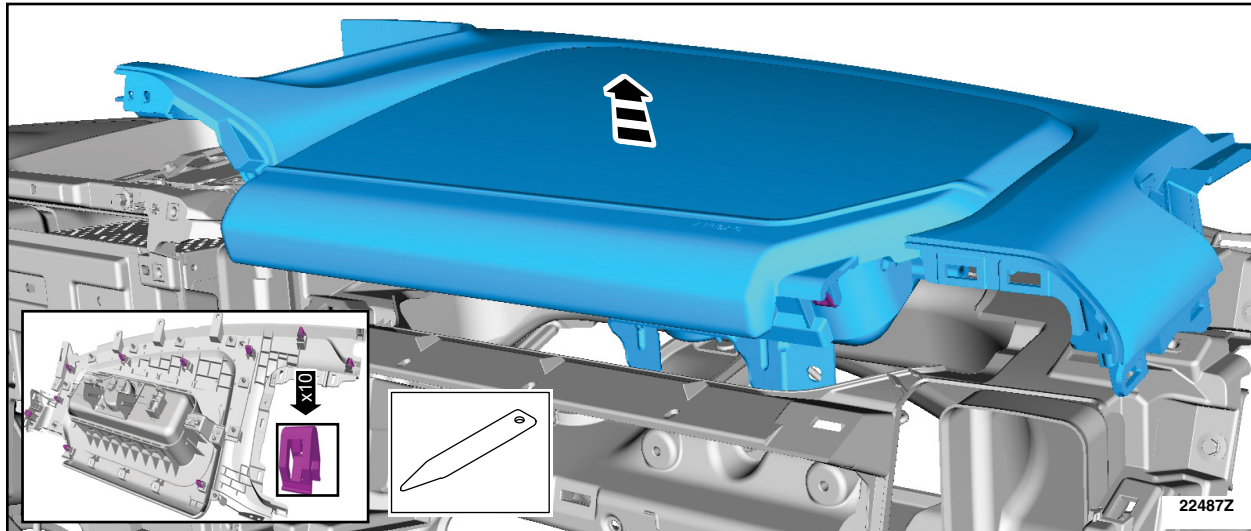

FIGURE 24
25. Remove the RH instrument panel upper section by lifting upwards to release the clips. See Figure 24.